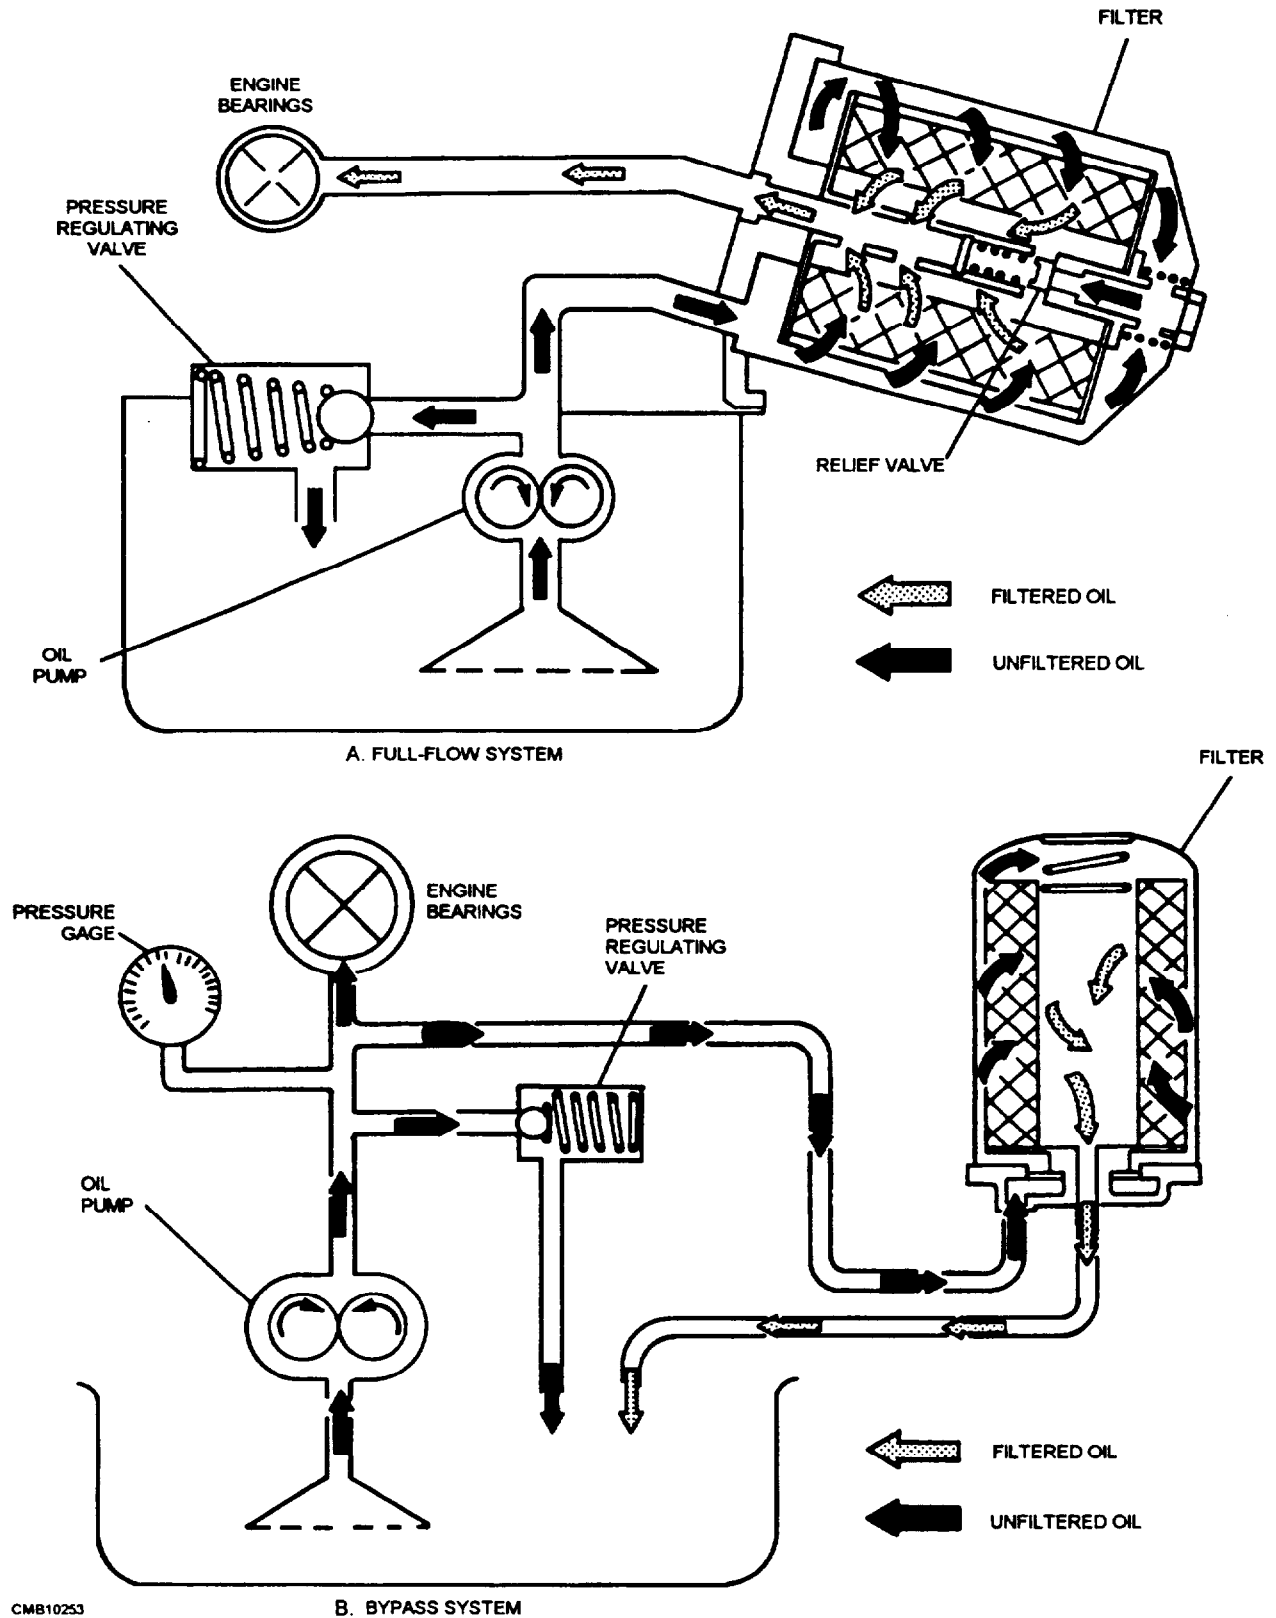

Figure 6-25.—Filter system configurations.
1. The full-flow system (fig. 6-25) is the most common. All oil in a full-flow system is circulated through the filter before it reaches the engine. When a full-flow system is used, it is necessary to incorporate a bypass valve in the
- The bypass system (fig. 6-25) diverts only a small quantity of oil each time it is circulated and returns it directly to the oil pan after it is filtered. This type of system does not filter the oil before it is sent to the engine. The oil from the main oil gallery enters the filter and flows through the filter element. It then passes into the collector in the center of the filter. The filtered oil then flows out a restricted outlet preventing the loss of pressure. The oil then returns directly to the oil pan.